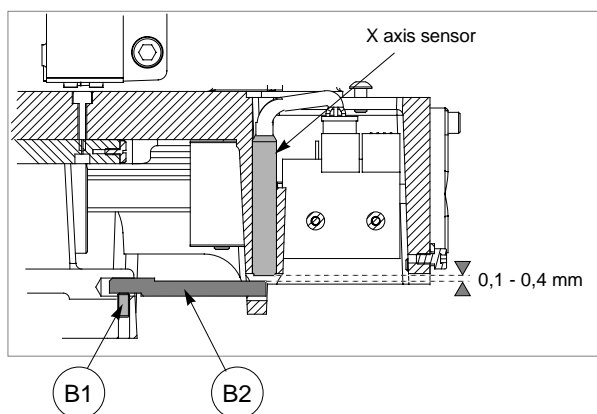

Fig. 28
- use the hex wrench to loosen the grub screw (B1) slowly move the rod (B2) manually in both directions (fig. 28) until the point of transition from OFF to ON is found. The display changes from: